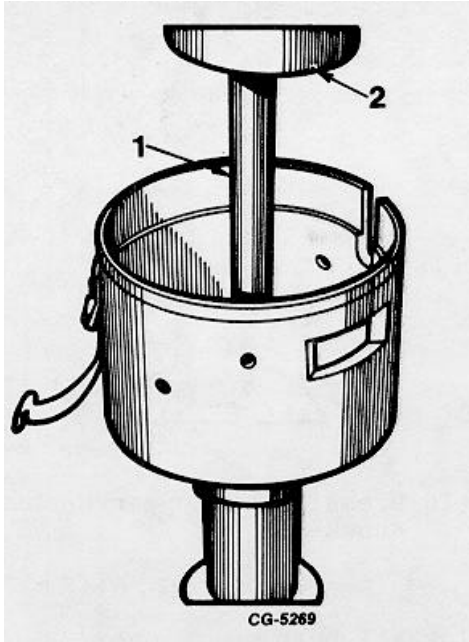

Fig. 28. Pressing Out Lower Bushing Using Knock-Out Bar
- Place distributor housing on press bed. Insert knock-out bar through upper bushing bore and allow to rest on end of bushing remover installed in lower bushing. Pressing against knock-out bar, press lower bushing from distributor housing (Figure 28)